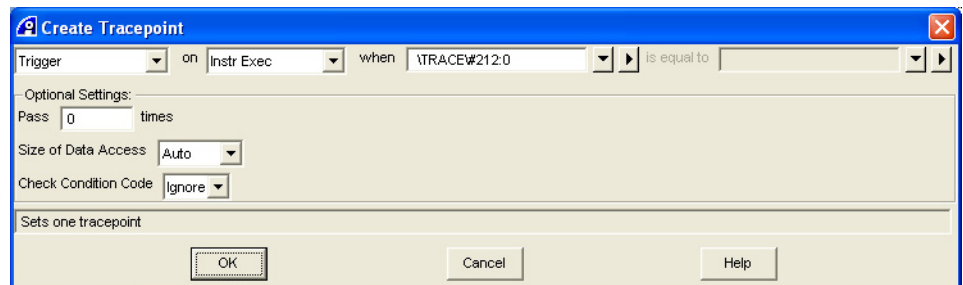

Figure 7-6 Create Tracepoint dialog box
2. Select **Create Tracepoint...** from the context menu to display the Create Tracepoint dialog box. Figure 7-6 shows an example: